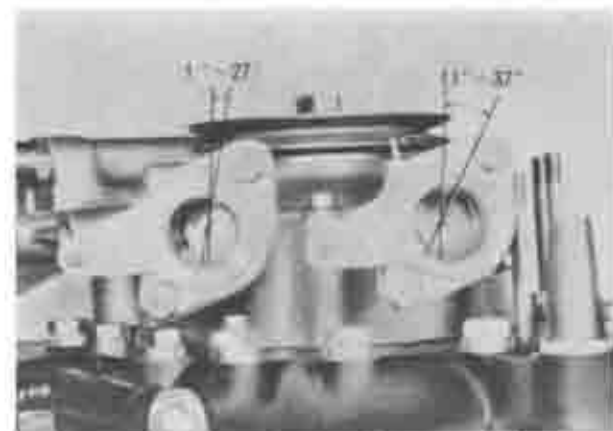

Fig. 1-117 Position of distributor sockets
2. Install the leading side distributor socket through the gasket to the front housing so that the groove on the upper side of the drive shaft points  $1^{\circ}\sim 27^{\circ}$  to the right against the longitudinal axis of the engine, as shown in Fig. 1-117.